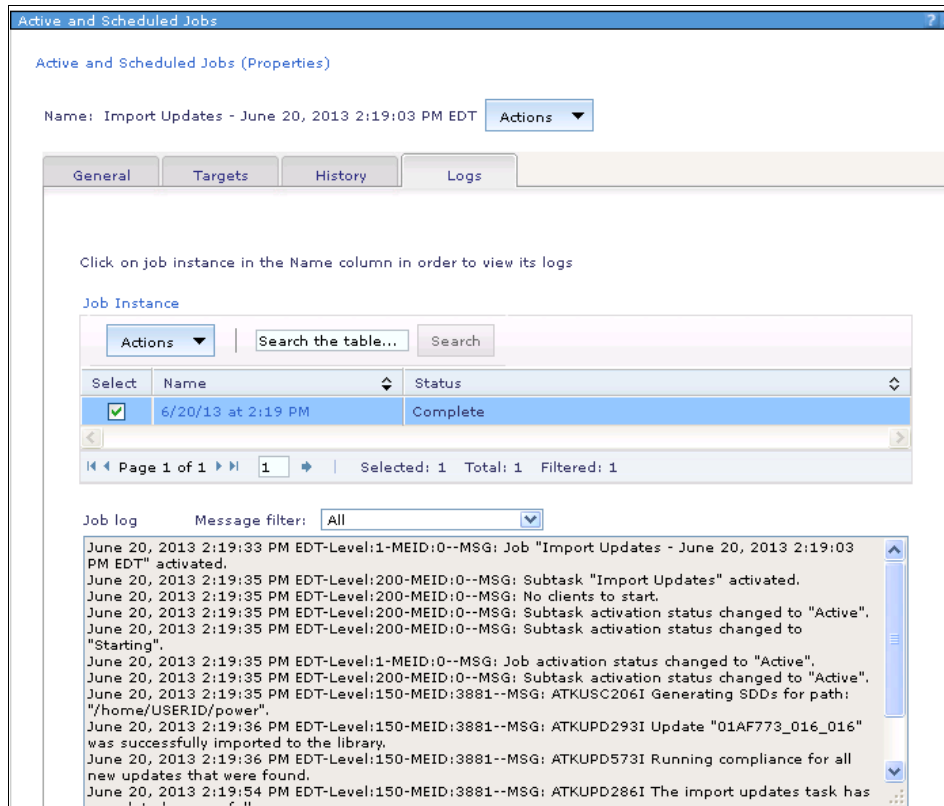

Figure 7-66 Update import job log
- When the OK button is clicked, the job scheduler opens and asks to run now or schedule in the future. The option to display the running job is shown. For import jobs, it is good practice to verify that an update was processed and the job was completed without errors, as shown in Figure 7-66.